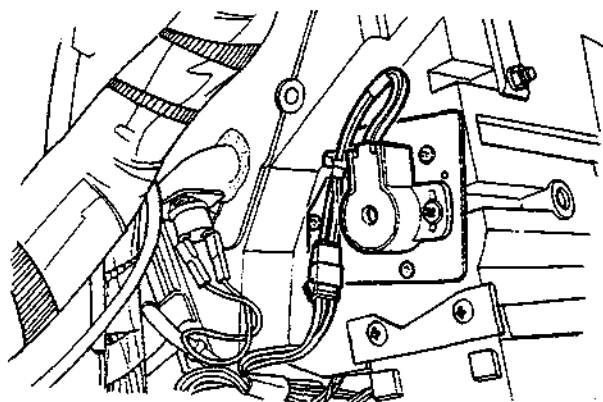

Figure 1.
3. Disconnect the electrical block connector (Fig. 1).